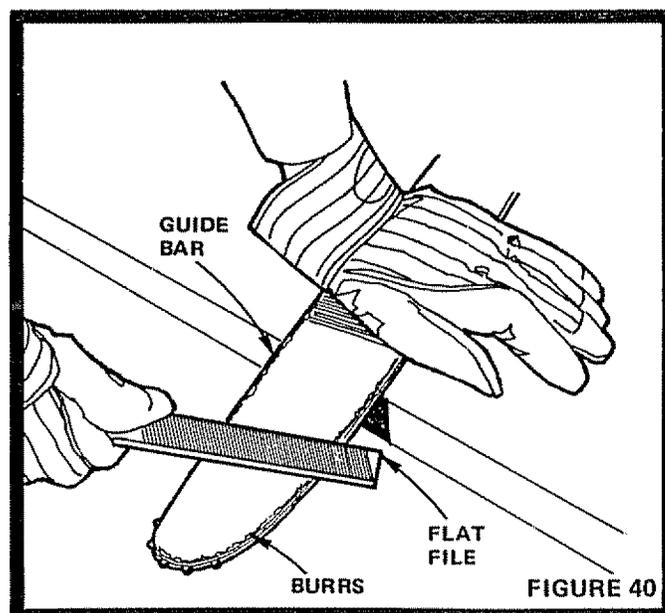

FIGURE 40
- b. Move your gloved hand across the flat of the Guide Bar to feel burrs and remove them with a Flat File. Rounding outside Rail edges will retard further burr formation (Fig. 40).